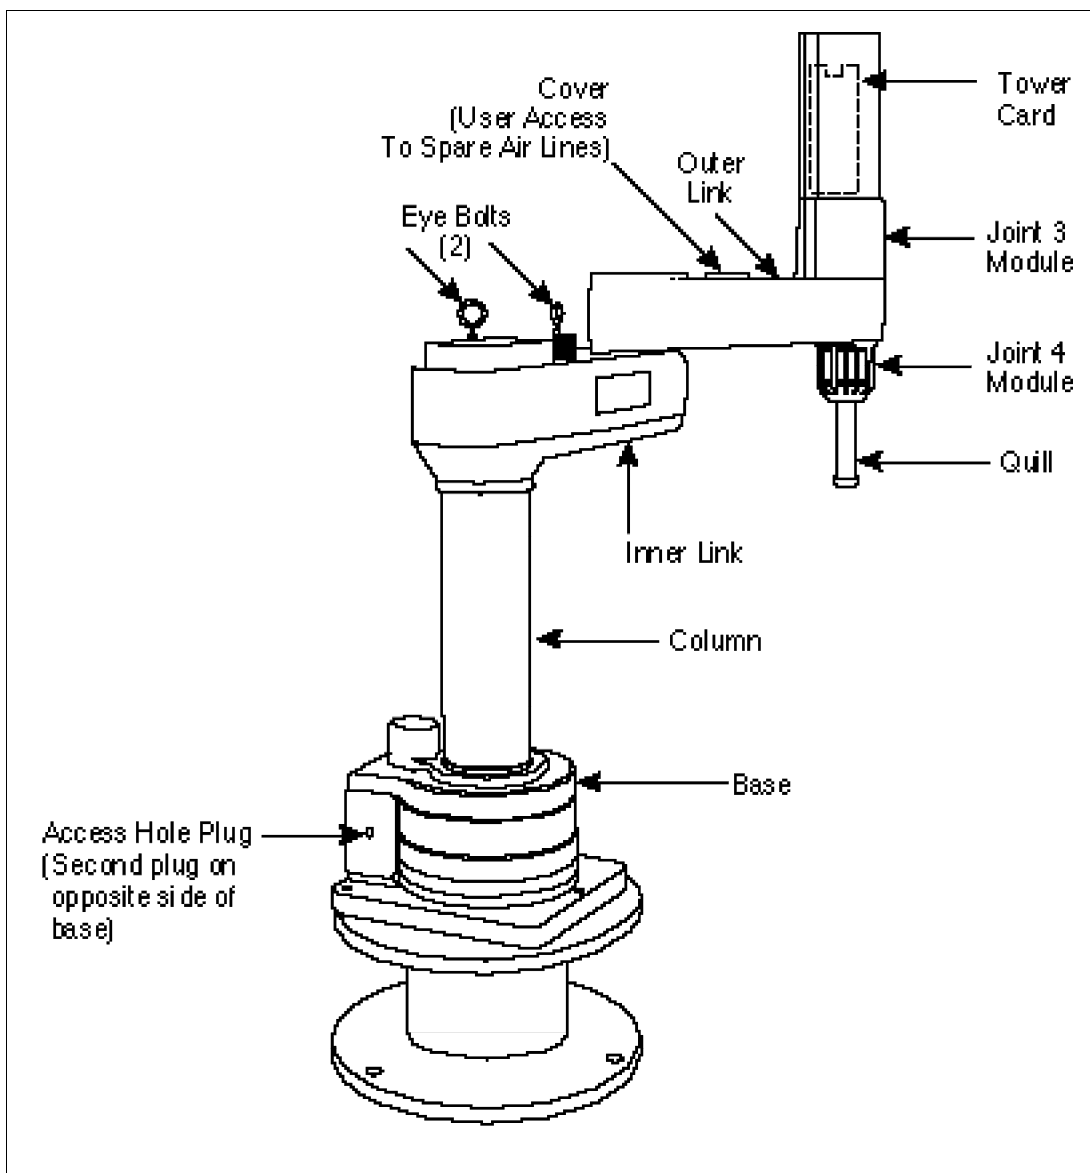
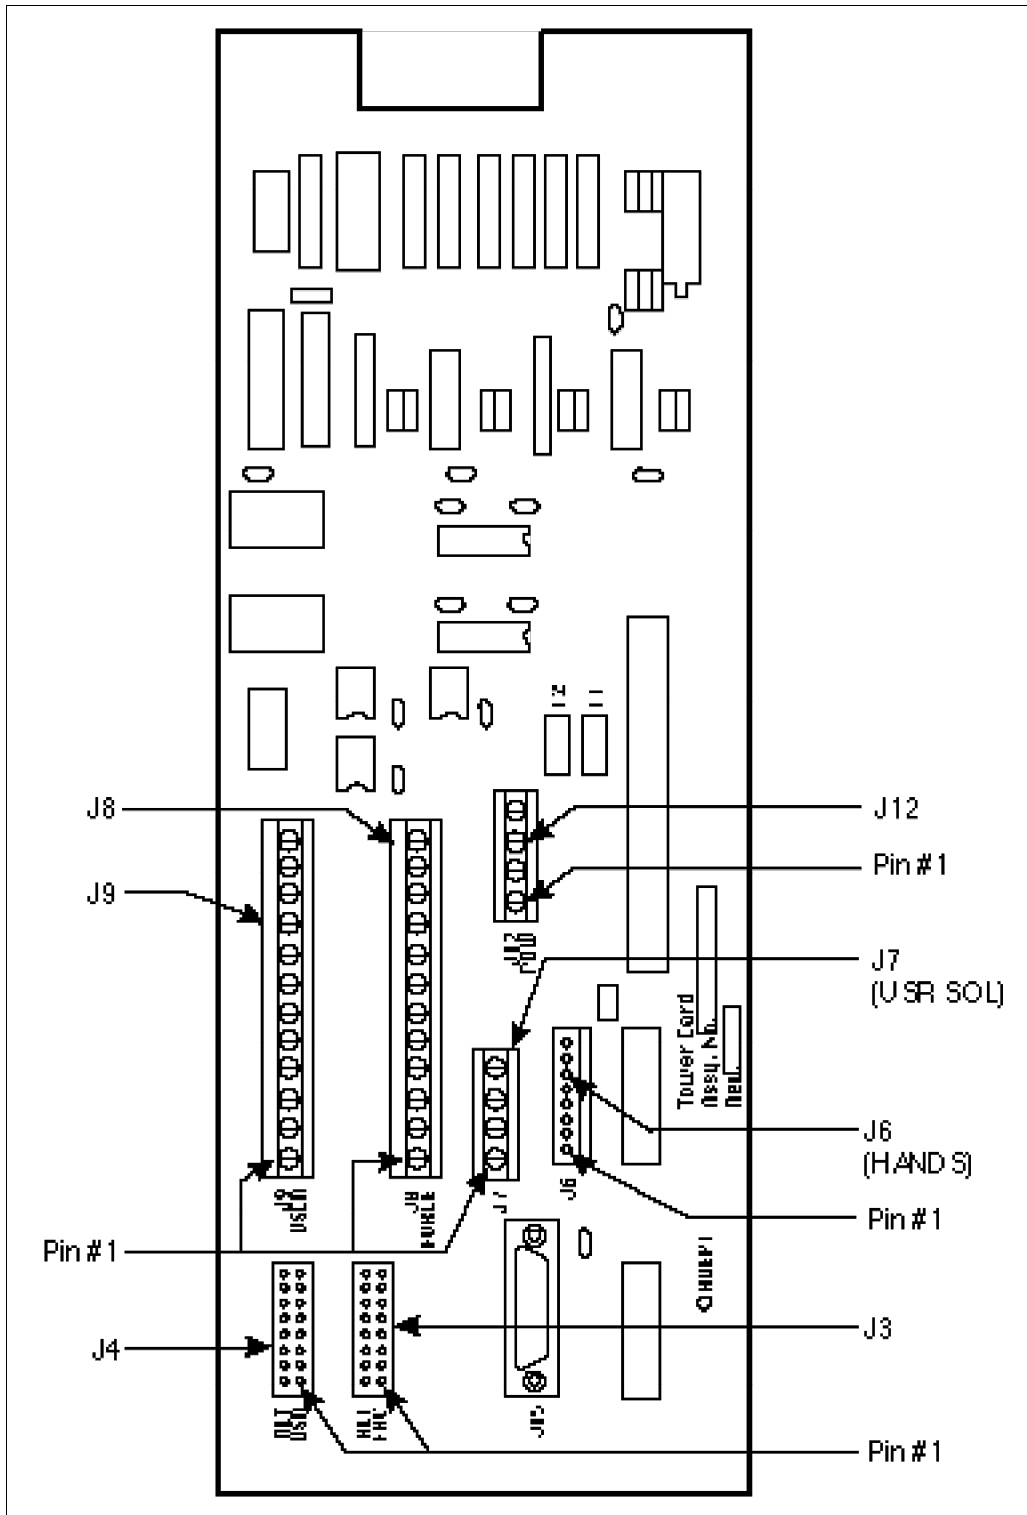

Figure 3-7. User Access to Spare Air Lines and Tower Card Location
Figure 3-11. Tower Card User Signal and Voltage Lines
1. Connect the hydraulic lift to the eyebolts at the top of the robot (Figure 3-7) by means of the dual-leg sling. Take up any slack but DO NOT lift the robot at this time.
Two "spare" air lines, 1/8 inch and 1/4 inch, are incorporated into the robot to allow for User options. These lines run from the base of the robot up to the area near the solenoid valve in the outer link. The lines are not supplied with connection fittings at either end. At the base, the ends of the air lines can be routed through either one of the access holes capped with removeable plastic plugs (Figure 3-7). To gain access to the spare air lines at the base, remove eight cap-head screws that secure the base top cover, then lift and turn the cover out of the way. Be careful not to disturb exposed parts and wiring when top cover is off. At the outer link location, the air lines can be accessed by removing the outer-link cover.
User signal and voltage lines are available at connectors located on the Tower printed circuit assembly (PCA). The Tower PCA is mounted to the top of the Joint 3 housing (refer to Figure 3-7). For the location of the connectors on the Tower PCA, including the location of pin 1 for each connector, see Figure 3-11. The pin-out (wire list) for each connector is shown in Table 3-1.
The actual driver transistors are located on the Robot Signature Card (RSC), at the base of the robot, and interface to the Tower PCA at J7 (USER SOL) via the robot harness. Refer to Table 3-1 for pin assignments and Figure 3-11 for the connector's location.
The Tower PCA provides limited DC power (500 mA max.) to drive User end-of-arm hardware such as indicators, small motors, or other analog devices. 12 VDC, -12 VDC, 12RTN, and FRAME ground are available. Each of these is terminated at J12 (POW) on the Tower PCA. Refer to Table 3-1 for pin assignments and Figure 3-11 for the connector's location. These supplies are fused at 0.5 Amp by fuses F1 and F2 on the Tower PCA.